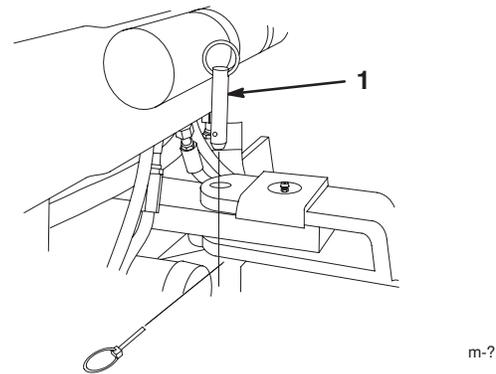
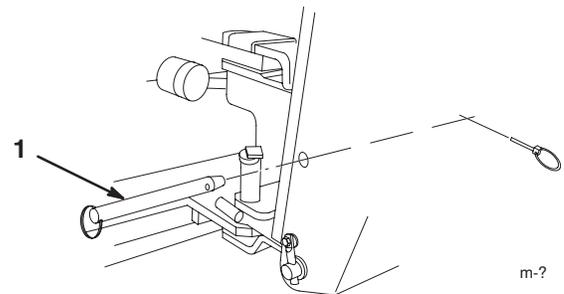
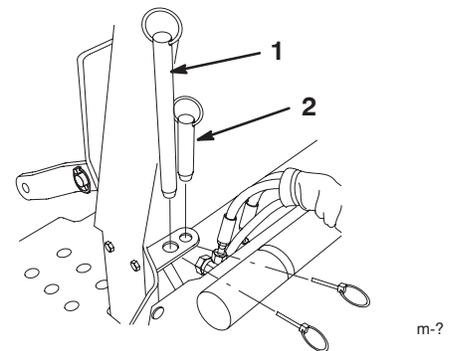

Figure 16
Figure 17
Figure 18
Install the pins securing the boom from moving up and down and side to side (Figs. 16 and 17) before leaving the backhoe unattended, transporting it, or disconnecting it from the traction unit.
5. Remove the two pins locking the boom in place (Figs. 16 and 17) and place them in the storage positions (Fig. 18).
Note: One pin prevents the boom from swinging side to side (Fig. 16) and the other prevents the boom from moving up and down (Fig. 17).